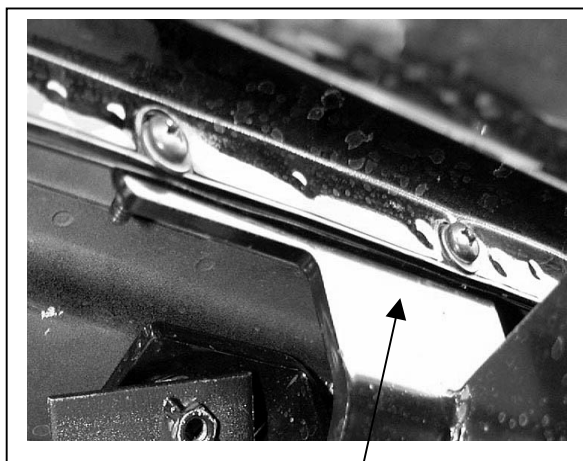

Fig 3
5. Install the black round 6MM Allen head bolts and 6MM Flat Washer through the front of rocker panel lip (Fig 3) for all three mounting plates. Secure with a 6MM Flat Washer, 6MM Lock Washer, and a 6MM Nylock Nut. **Do Not Tighten At This Time**